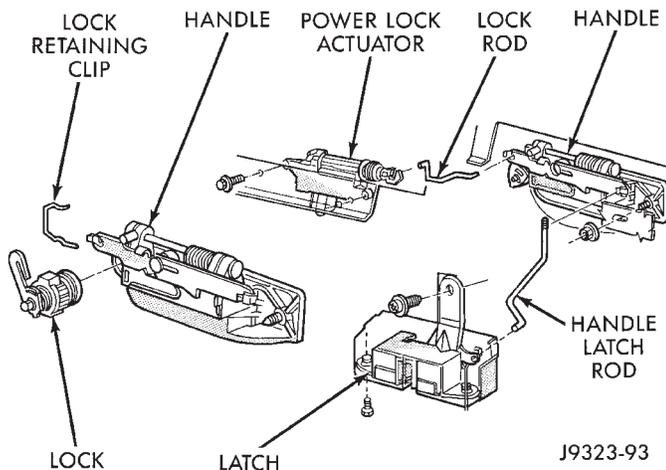

Fig. 10 Liftgate Latch/Lock Components
(5) Remove the liftgate trim panel from the vehicle.
(6) Remove the three screws that secure the liftgate latch to the liftgate (Fig. 10).